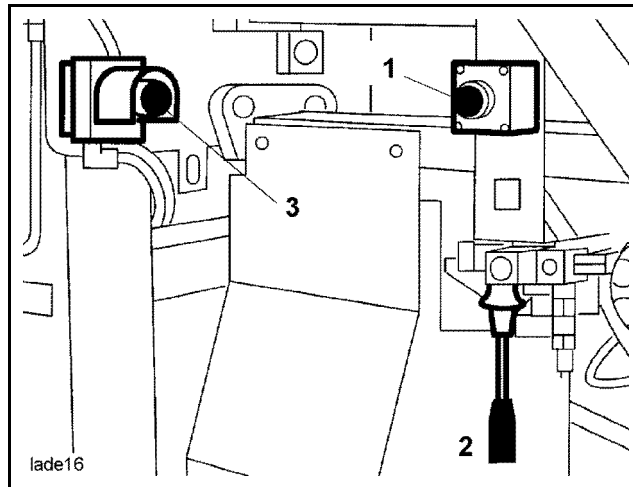

Fig. 501
- Press and hold the release button (1) (**Fig. 501**).
- Move the stowing box up or down with the control lever (2) (**Fig. 501**) until the respective limit stop is reached.
In case of faults or danger, pressing the EMERGENCY OFF button (3) (**Fig. 501**) interrupts the movement of the stowing box.